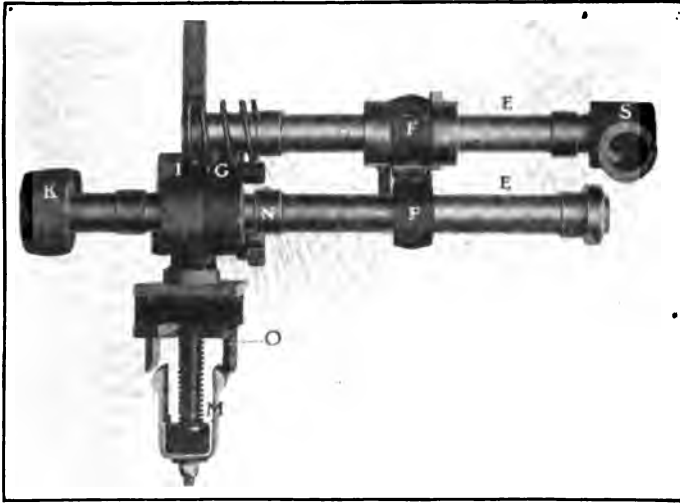
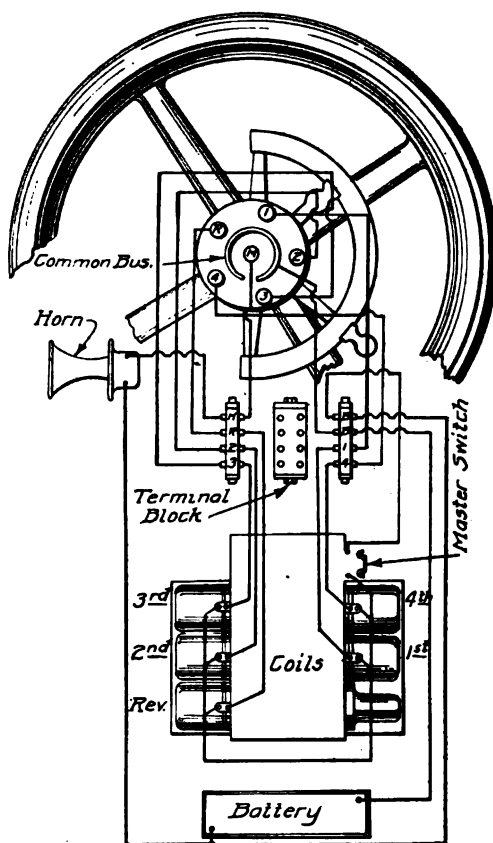

Fig. 449. Plan View of C-H Neutralizing Mechanism and Master Switch
Fig. 452. Complete Wiring Diagram for C-H Electric Gear-Shift
no current flows, and as the solenoids are not energized, the gears remain in neutral. Fig. 449 shows a plan view of the neutralizing mechanism and the master switch, while Fig. 450 illustrates the solenoids (two of them) and their mounting in detail. The relative locations of these solenoids to the remainder of the operating mechanism is shown by the phantom view of the complete gear box. Fig. 451. The solenoids are identified by the letters *B1*, *2*, etc., and their cores by the letters *C1*, *2*, etc. A complete wiring diagram is given in Fig. 452.
switch, and the latter snaps open instantly, owing to the pull of the spring *O*, Fig. 449. The actual time of engagement, during which current is being drawn from the battery, is said to be less than one-third of a second.
**Wiring.** Referring to the wiring diagram, Fig. 452, it will be noted that the wiring is very simple. To permit the removal of the gear box, if necessary, without having to disconnect any permanently fastened cables, all the wires are led to a terminal block, the actual location of which is shown on the gear box, Fig. 451. Connections at this terminal block are simplified by making each terminal a different size so that the wires can be replaced only on the terminals which correspond to them. There is, accordingly, no risk of confusing them. A single wire leads from each magnet coil through the terminal block to its particular speed button on the selector switch, while the other lead from the coil is connected to a neutral wire directly through the terminal block and the master switch to the battery. Another wire from the battery passes through the terminal block to the contact of the selector switch which is common to all speeds. The circuit is accordingly from the positive terminal of the battery through the depressed push button on the selector switch, through the winding of the coil to which the button in question corresponds, and back through the master switch to the other terminal of the battery.
- (1) A break in the linkage connecting *L* with the clutch pedal, which would prevent the neutralizing mechanism from coming into operation, and would also prevent the master switch from closing.
(2) Dirt or wear which would prevent the fingers of the master switch from making proper contact; failure of the spring *O*, of the master switch, through breakage, so that the master switch would not open automatically immediately upon completing the shifting of the gears, as is normally the case.
(3) Excessive jolting and vibration causing some of the leads to shake loose from the terminal block.
(4) Breakage or loosening of some of the connections at the selector switch owing to the same cause. (The wiring itself is so well protected that any injury to it is remote.)
(5) Jamming of the solenoid cores in the brass tubes in which they slide in the coils, owing to the shaft getting out of alignment. To operate properly, it should be easy to move the entire shifting mechanism by hand with very little effort.
(6) Exhausted storage battery which, as a matter of fact, should always be tested first, but which, like the empty gasoline tank, is such patent cause of failure that it seems almost unnecessary to mention it, either first or last. As is pointed out at considerable length under the appropriate heading, there are numerous causes for the exhaustion of the battery, so that its condition should always be inspected before attempting to investigate the shifting mechanism.